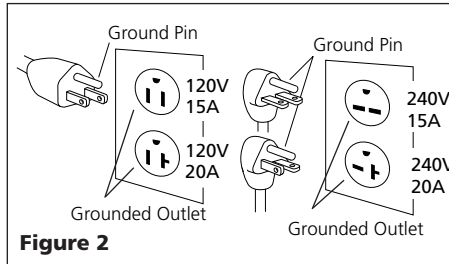

Figure 2
1. This product is for use on a nominal 120 volt circuit and has a grounding plug that looks like the plug illustrated in Fig. 2. Make sure the product is connected to an outlet having the same configuration as the plug. This product must be grounded. In the event of an electric short circuit, grounding reduces the risk of electrical shock by providing an escape wire for the electric current. This product is equipped with a cord having a grounding wire with an appro-
ropriate grounding plug (See Fig. 2). The plug must be plugged into an outlet that is properly installed and grounded in accordance with all local codes and ordinances.
1. If the plug on the electrical cord of the unit is unfamiliar to you or will not fit your particular receptacle, the illustrations in figure 2 will help you understand why by illustrating the different plugs and the voltages they are to be used with.